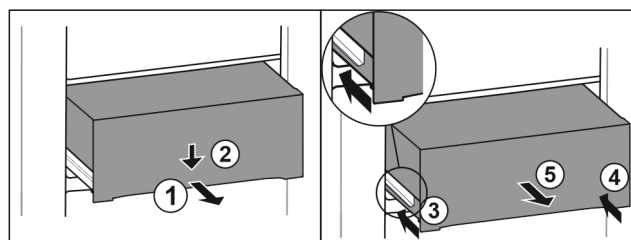

Fig. 118
- Pull out the drawer halfway. Fig. 118 (1)
- Press down the drawer on the front. Fig. 118 (2)
- Push in the left rail approximately 2 cm (13/16 in). *Fig. 118 (3)*
- Push in the right rail approximately 2 cm (13/16 in). *Fig. 118 (4)*
- Remove drawer to the front. *Fig. 118 (5)*